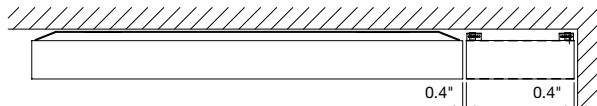

Figure 13. Cover with ceiling attachments.
- 3.- Cover with ceiling attachments (see fig. 13).